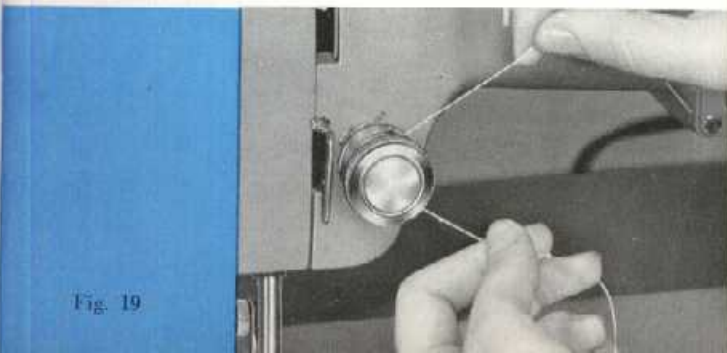

Fig. 19
- b) Pass thread forward and backward several times, in different directions, so that the knots of the thread, while passing between the discs (Fig. 19), can remove any dirt or bits of thread.